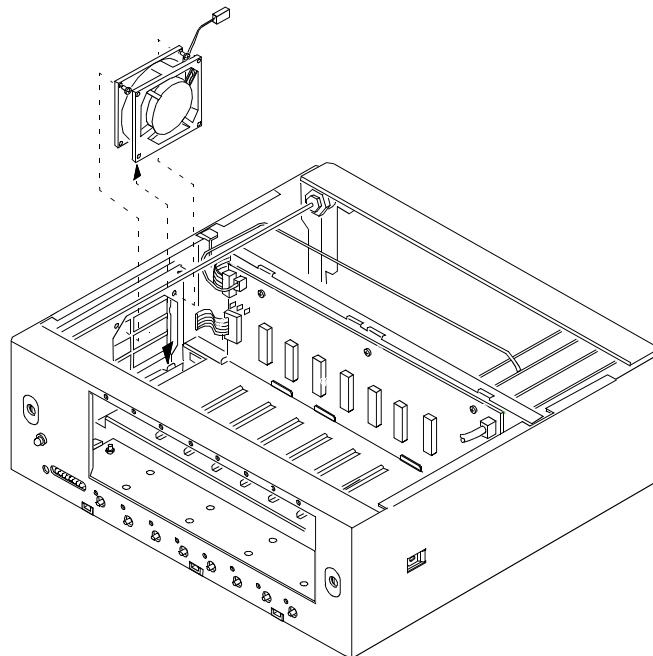

Figure 7-8 Removing the Chassis Cooling Fan
- Step 3.** Remove the 2 screws that secure the Chassis Cooling Fan to the chassis using a thin cross-tip screwdriver. See Figure 7-8.